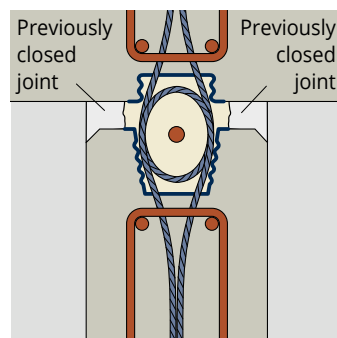
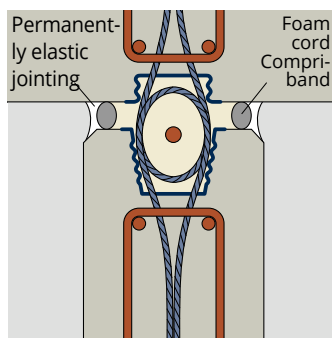

Figure 21
Figure 22
The flexible covering tape is simply pulled off after demoulding (Fig. 21). The inside of the VS® profiles is then exposed, and the wire rope loops are visible. The wire rope loop can easily be folded out (Fig. 22). The wire rope loop should protrude perpendicularly from the element, and should spring back to this position again even after having been pushed aside when assembling the elements. The wall components are now ready for final installation on site.
2. Mortar seal (Fig. 21)
3. Sealed off compriband (Fig. 22)